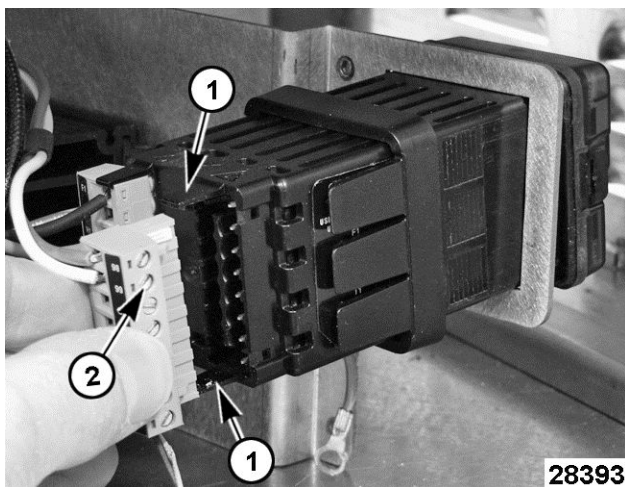

Fig. 45
- Lift the locking tabs [1] Fig. 45 on PID controller to unlatch the wire connection strips then remove the strips [2] Fig. 45 from PID controller as shown.